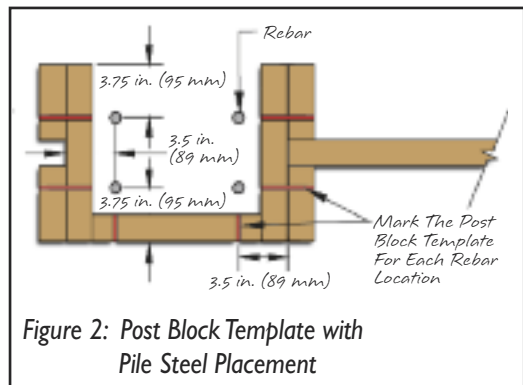
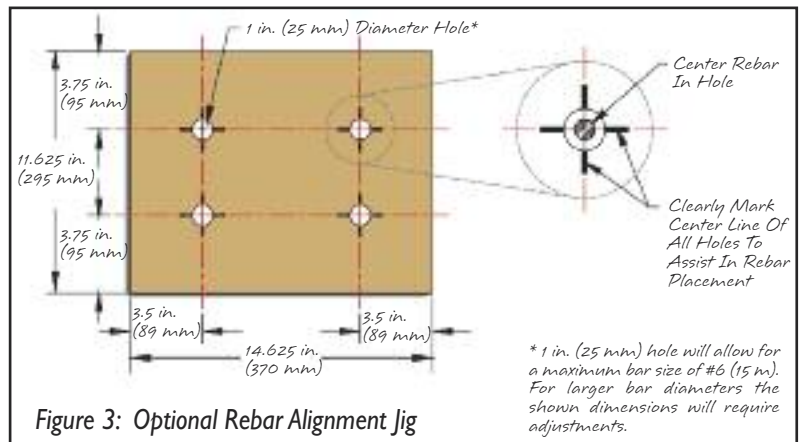

Figure 2: Post Block Template with Pile Steel Placement
Figure 3: Optional Rebar Alignment Jig
The pile layout jig (Figure 1) is used after the piles are poured, but not quite hardened to set the location of the post blocks on the piles and ensure the exact relative spacing between each AB Fence post. This will also indicate precisely where the rebar needs to be placed in the piles (Figure 2). The optional rebar alignment plate can be used for increased accuracy of bar placement, see Figure 3.
Using 2 x 6's construct two post block templates as shown in Figure 2. After measuring the exact panel length, nub to nub, cut a 2 x 6 to this length plus 0.5 in (13 mm) extra to account for the required space between panel block and post pocket. This 2 x 6 is the Pile Layout Spacer shown in Figure 1 and is used between the post block templates.
- Mark the placement of the rebar in the pile, using the Post Block Template similar to Figure 2 during the pile pour. For more information see the construction detail on page 26.
- Place the vertical steel reinforcement bars (rebar) using the placement template shown in *Figure 2*; or for greater accuracy use the optional rebar alignment jig shown in *Figure 3*. Pay close attention to make sure that the center of the template is at the center of the AB Fence post and square to the adjacent AB Fence post. This can be done using offsets and string lines.